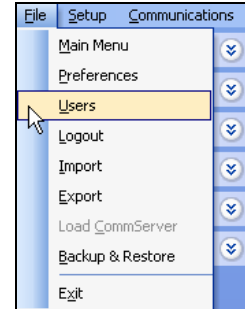

Figure 1.1.1
1. In the toolbar at the top of the screen select **File** and then scroll down to the word **Users** and click on it (Figure 1.1.1).